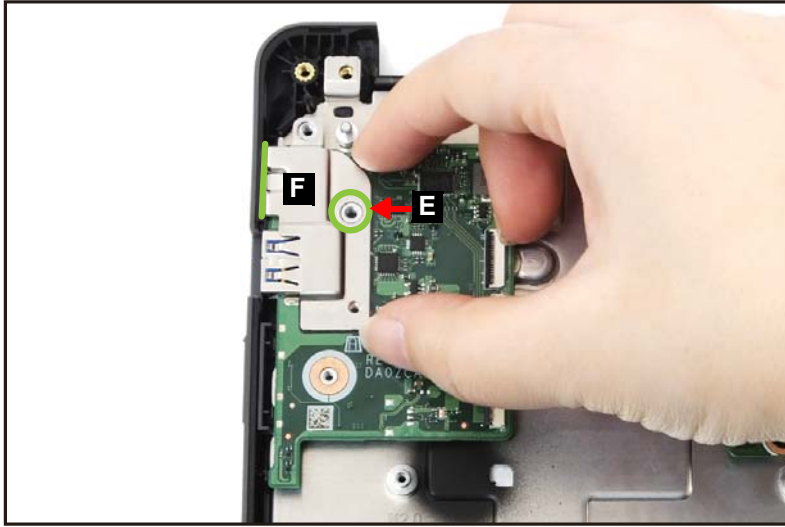

Figure 1-25. USB Board Removal
4. Release the I/O bracket from the USB port slot and guide pin (E) on the top assembly. Then remove the I/O bracket (F) (Figure 1-25).